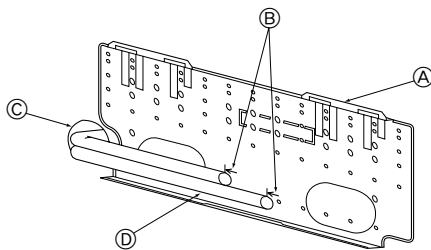

Fig. 3-4
- ① Fasten a thread to the hole
- ② The level can be easily obtained by hanging a weight from the string and aligning the string with the mark.
3.2. When embedding pipes into the wall (Fig. 3-4)